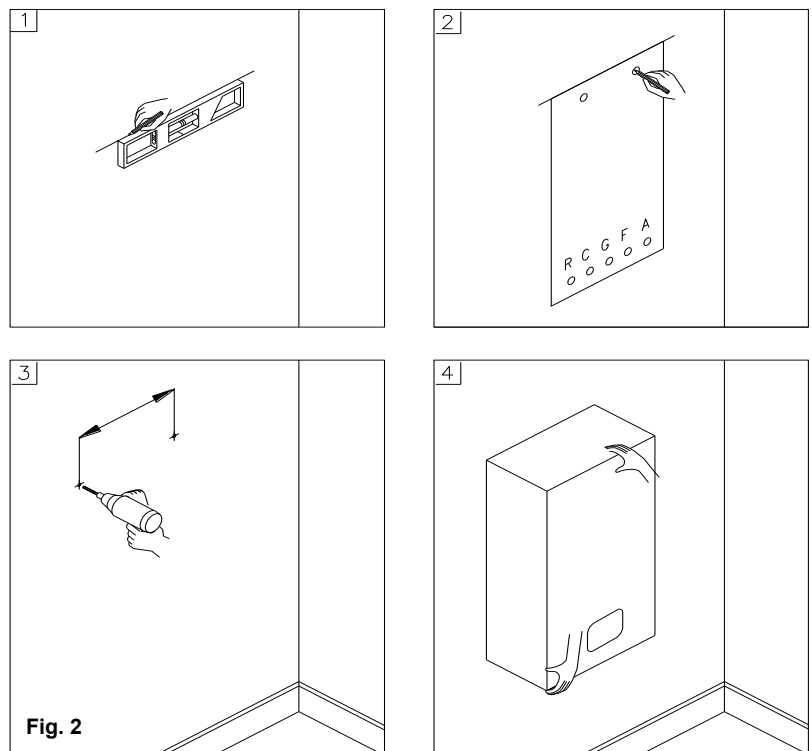

Fig. 2
To install the boiler, proceed as follows (see fig. 2):
- To facilitate the installation, the boiler is supplied with an hydraulic connection kit (see fig.2).